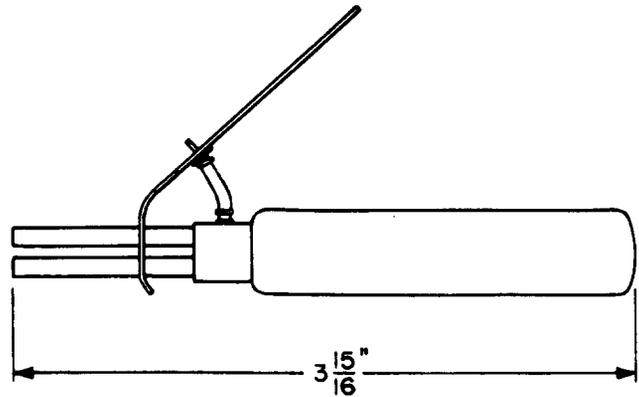

Fig. 4—553A Lamp Extractor Tool
2.04 **553A:** ♦Warning: Do not use any other type lamp extractor in ESS\* switching equipment or equipment damage could occur.♦ The 553A lamp extractor tool (Fig. 4) is used in removing switchboard lamps. The 553A tool has a plastic detail to prevent the bulb from inserting far enough into the lamp puller to allow shorting out the lamp holder. The 553A replaces the 116 extractor.